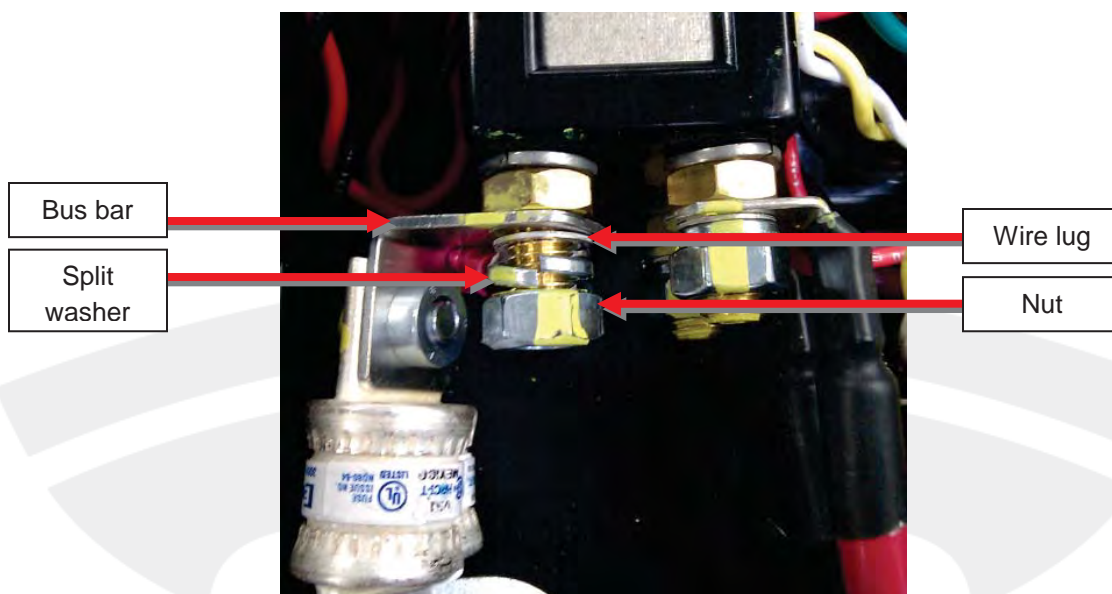

Figure 4
9. Before removing the bus bar assemblies completely, note the order of the components from bottom to top: nut, split washer, lug, bus bar (Figure 4). The red wire is attached to the outer (L2) assembly, the black wire to the inner (L1) assembly.